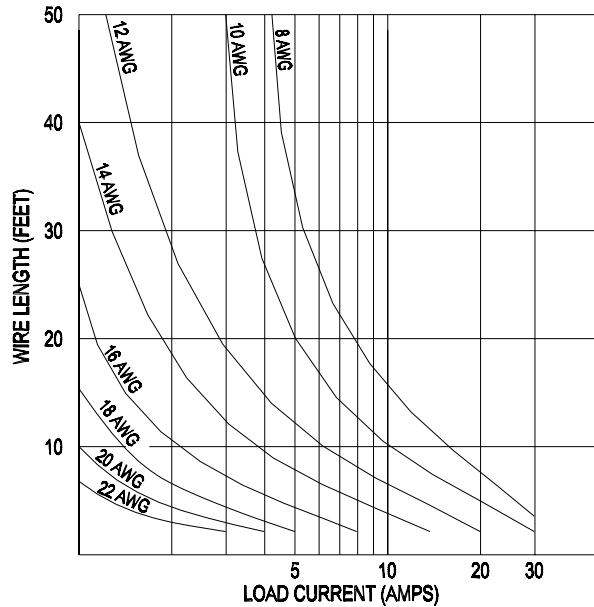

Figure 3.1 Maximum Wire Length for 100 mV Line Drop
**Load Wiring Length for Operation with Sense Lines** For applications using remote sensing, you must limit the voltage drop across each load line. See Figure 3.1 for some maximum allowable lengths for a given load current and wire size. We recommend that you use the larger load wiring to ensure a smaller voltage drop (0.1 V typical maximum), although units can compensate for up to 0.5 V drop in each line1.)